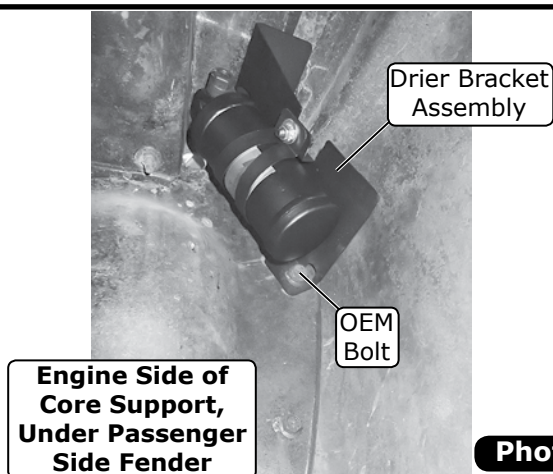

**Figure 2**
3. Secure the drier into the drier bracket assembly using a 1/4" flat washer and 1/4-20 nut with star washer (See Photo 20 and Figure 2, below). **NOTE: Do not fully tighten hardware until the #6 condenser/drier hardline has been installed.**